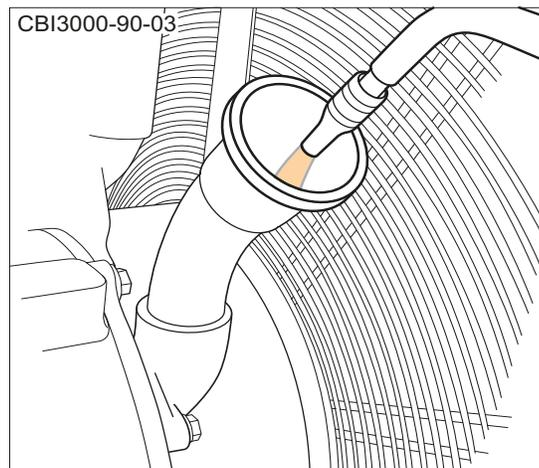

Figure 6.30 - Add Engine Oil
5. Add New Oil - Add new oil to the engine through the filler neck (Figure 6.30). Always use oil from a new sealed container or sufficiently filtered bulk source. Ensure to avoid overfilling the engine. Use filtered oil, a filter cart, and 10 micron filter.